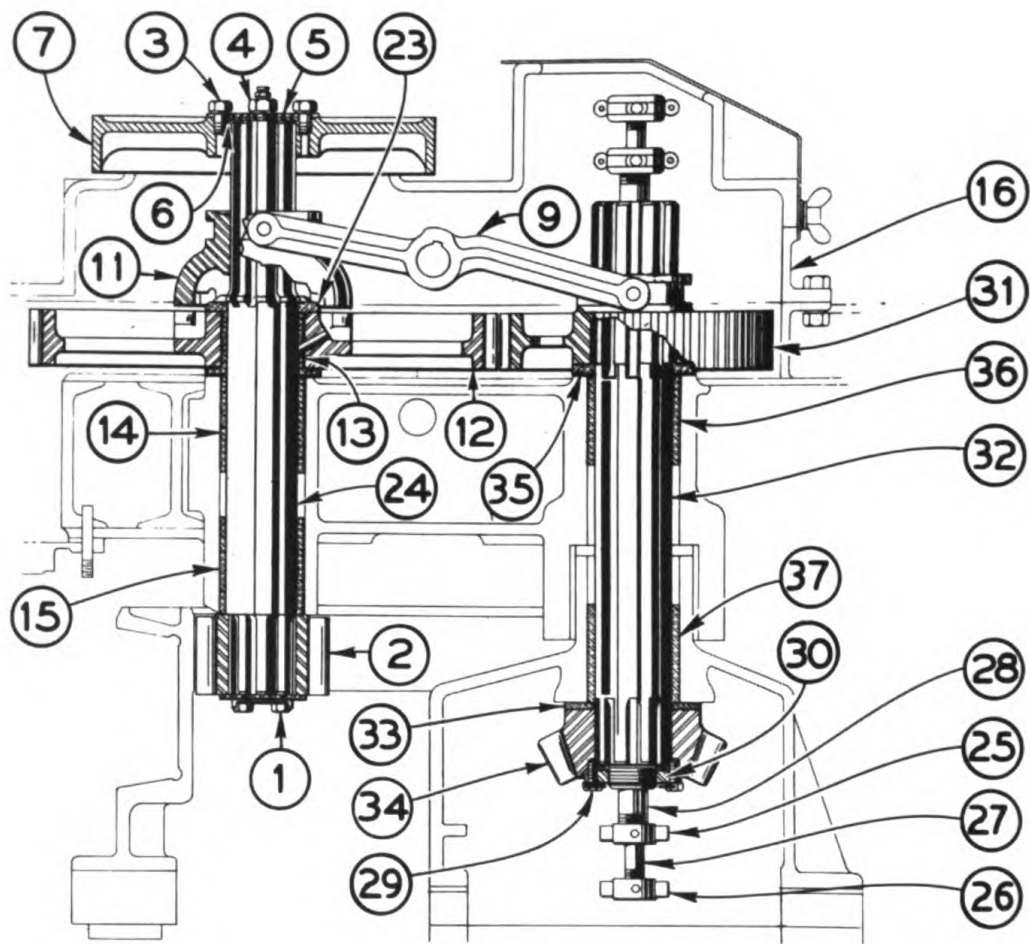

Figure 121
## SWING PINION (Figure 121)
Figure 121 and 122 Page 146
Figures 121 and 122
The bevel pinion (34) Figure 121 and thrust washer (33) Figure 121 may be removed while the lower traction shaft is out by removing yokes (13) and (14), then removing lock screws (29) and unscrewing adjusting nut (30) Figure 121 and sliding the pinion and thrust washer off. When the thrust washer and pinion are replaced, tighten adjusting nut (30) Figure 121 so that the vertical traction shaft has a slight amount of end play, then replace lock screws and wire them together.